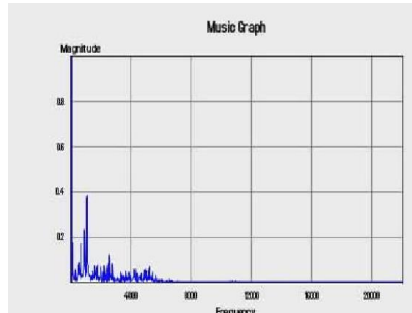

Fig 1.2
5) On connecting both the instruments you shall observe a spectral line other than the zero frequency line as shown in fig 1.2